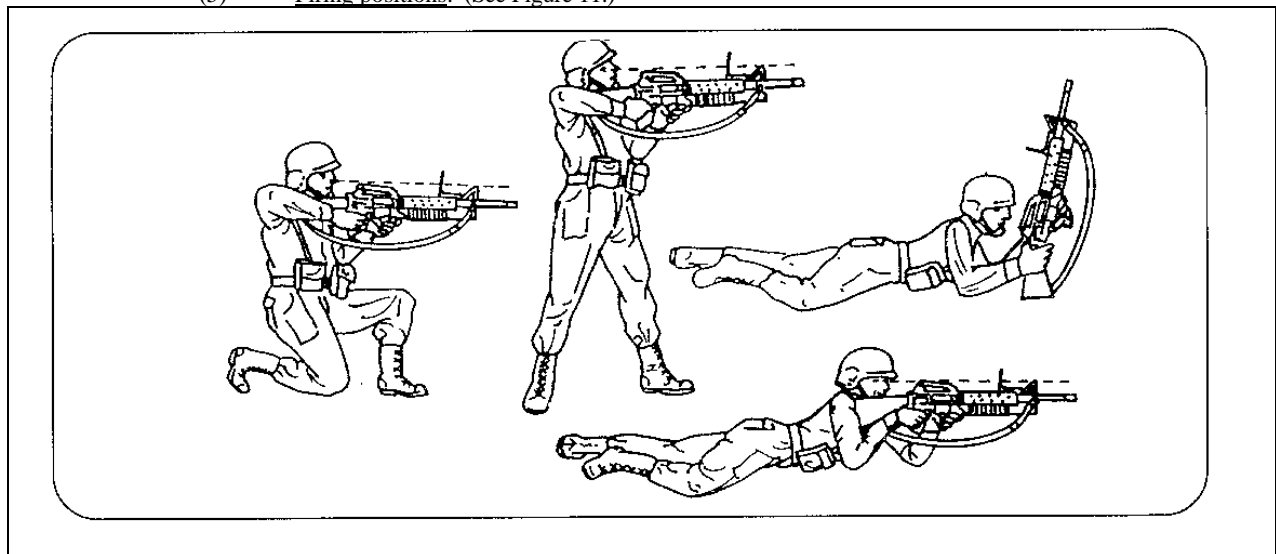

Figure 11. Firing positions
(5) Firing positions. (See Figure 11.)